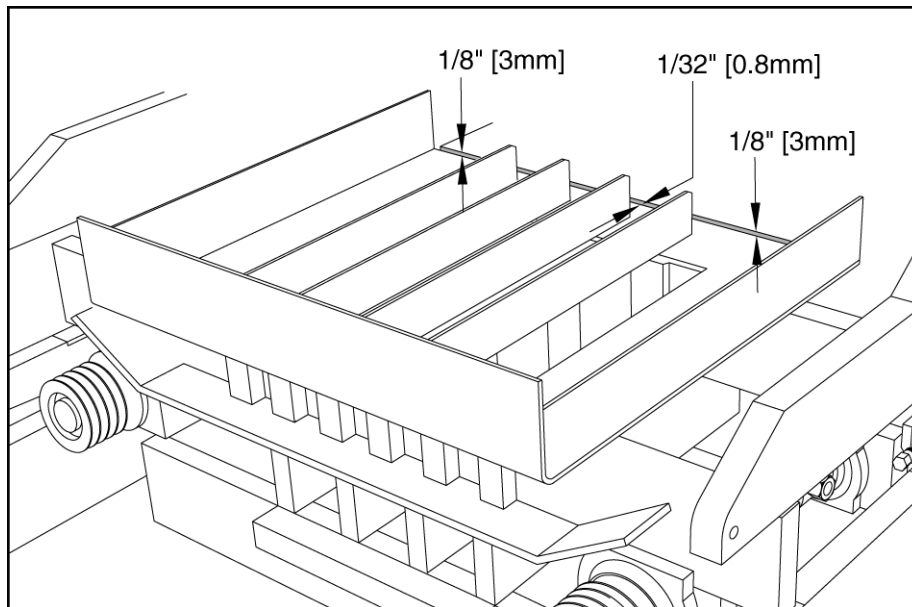

Figure 5.24 APRON PLATE CLEARANCE
- 5.6.2 Check to see that there is approximately 1/32" [0.8mm] clearance between the apron plate and the back of the mold top plate (see figure 5.24 and 5.25).